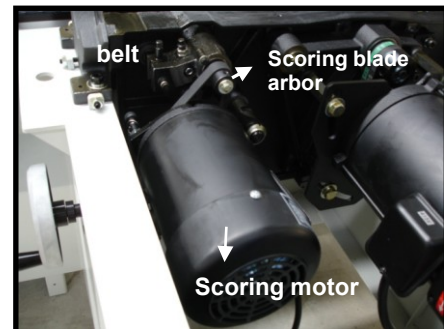

Fig. 65
5. Place the flat belt on the scoring blade arbor, lift the scoring motor and slide the lat flat over the scoring motor pulley. (Fig. 65)